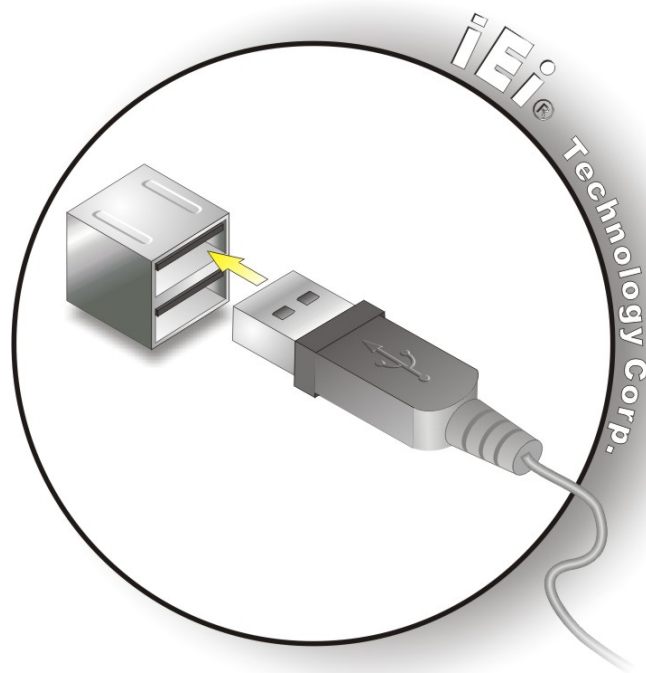

Figure 3-25: USB Device Connection
Step 2: **Align the connectors.** Align the USB device connector with one of the connectors. See **Figure 3-25**.